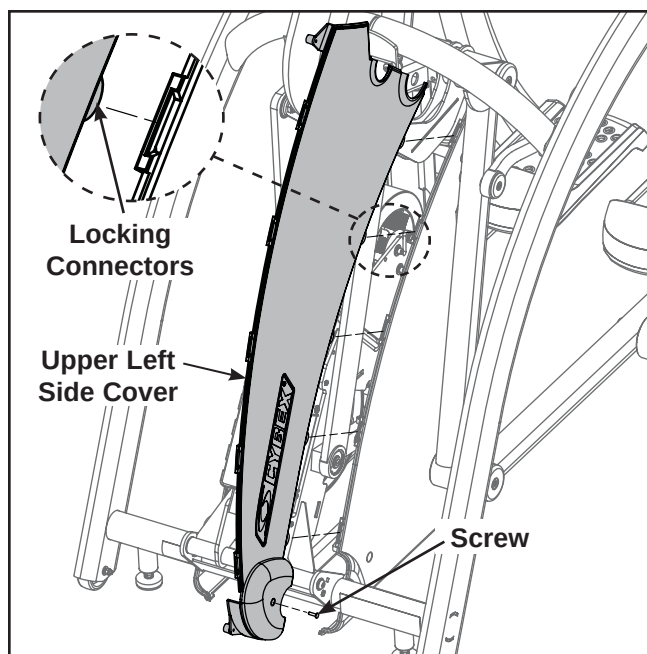

Figure 4
- E. Apply loctite (R) to the two BHSCS (removed in step 5C) and into where they will be threaded.
- F. Using two 7/32" Allen wrenches, attach the two BHSCS/Loctite and two washers to the pivot shaft. See Figure 4. **NOTE:** Handle will wobble if not securely tightened.
- G. Attach the heart rate cables. See Figure 4.
- A. Using a Phillips screwdriver, remove the screw securing each of the upper side covers. See Figure 4.
- A. Place the upper side covers in position. See Figure 4.